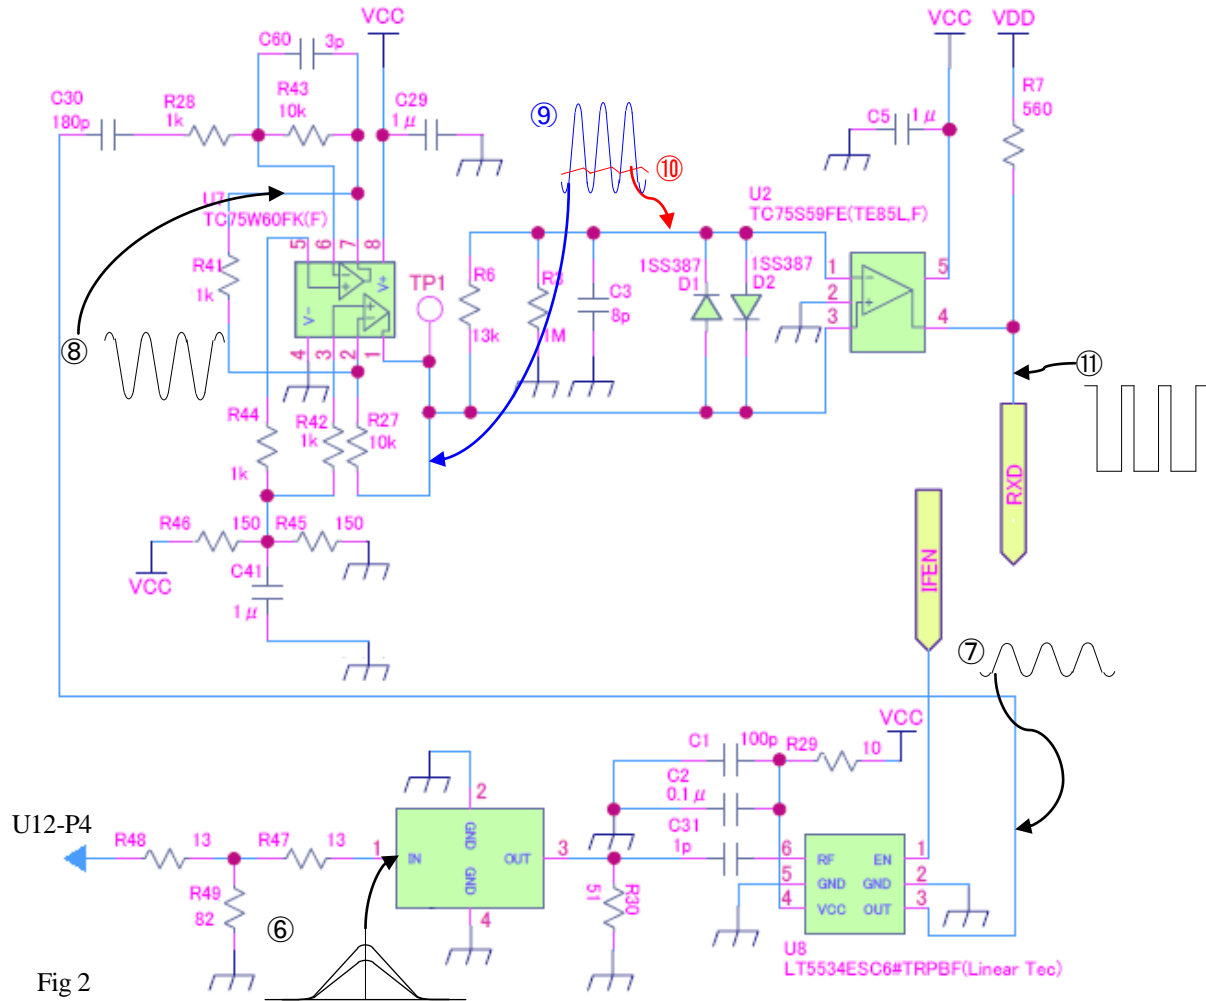

Fig 2
Fig 2 is receiving circuit / comparator circuit. Career Signal input from U12-4pin is attenuated (waveform ⑥) by R47, R48, and R49 -5dB T type attenuator. It outputs career wave (waveform ⑦) with U8 high frequency amplifier/detect IC LT5534 by passing U9 band pass filter. Career wave is amplified by U7 operational amplifier TC75W60 and outputs waveform ⑧, ⑨. Waveform ⑨ is input to U2 Comparator TC75S59 non inverting input. Other waveform ⑨ becomes threshold Signal ⑩ by R6 and C3.integrating circuit. It inputs to inverting input and outputs Rx data out (waveform ⑩a) to U8-1pin and 2pin.